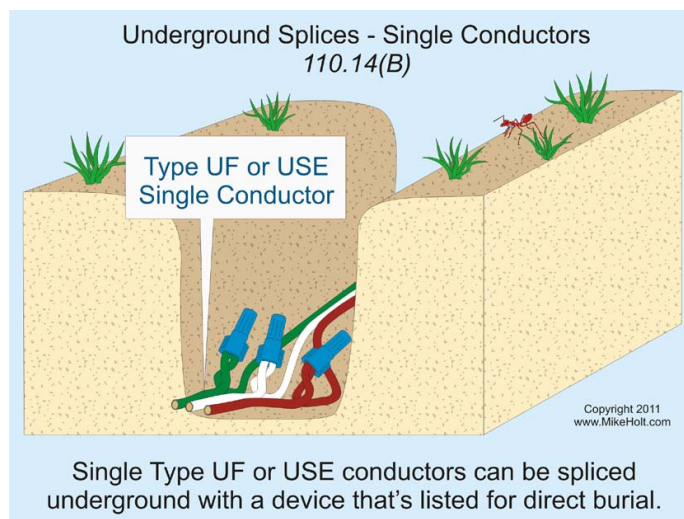

Figure 110-12
Single Conductors. Single direct burial conductors of types UF or USE can be spliced underground without a junction box, but the conductors must be spliced with a device listed for direct burial [300.5(E) and 300.15(G)]. **Figure 110-12**